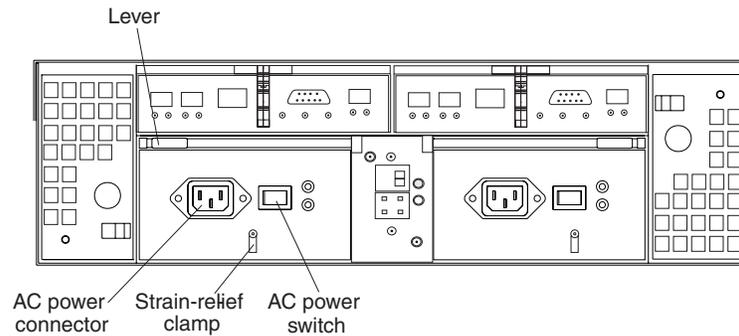

Figure 96. Connecting the power cord to the AC power connector
5. Connect the power cord to the AC power connector. See Figure 96.